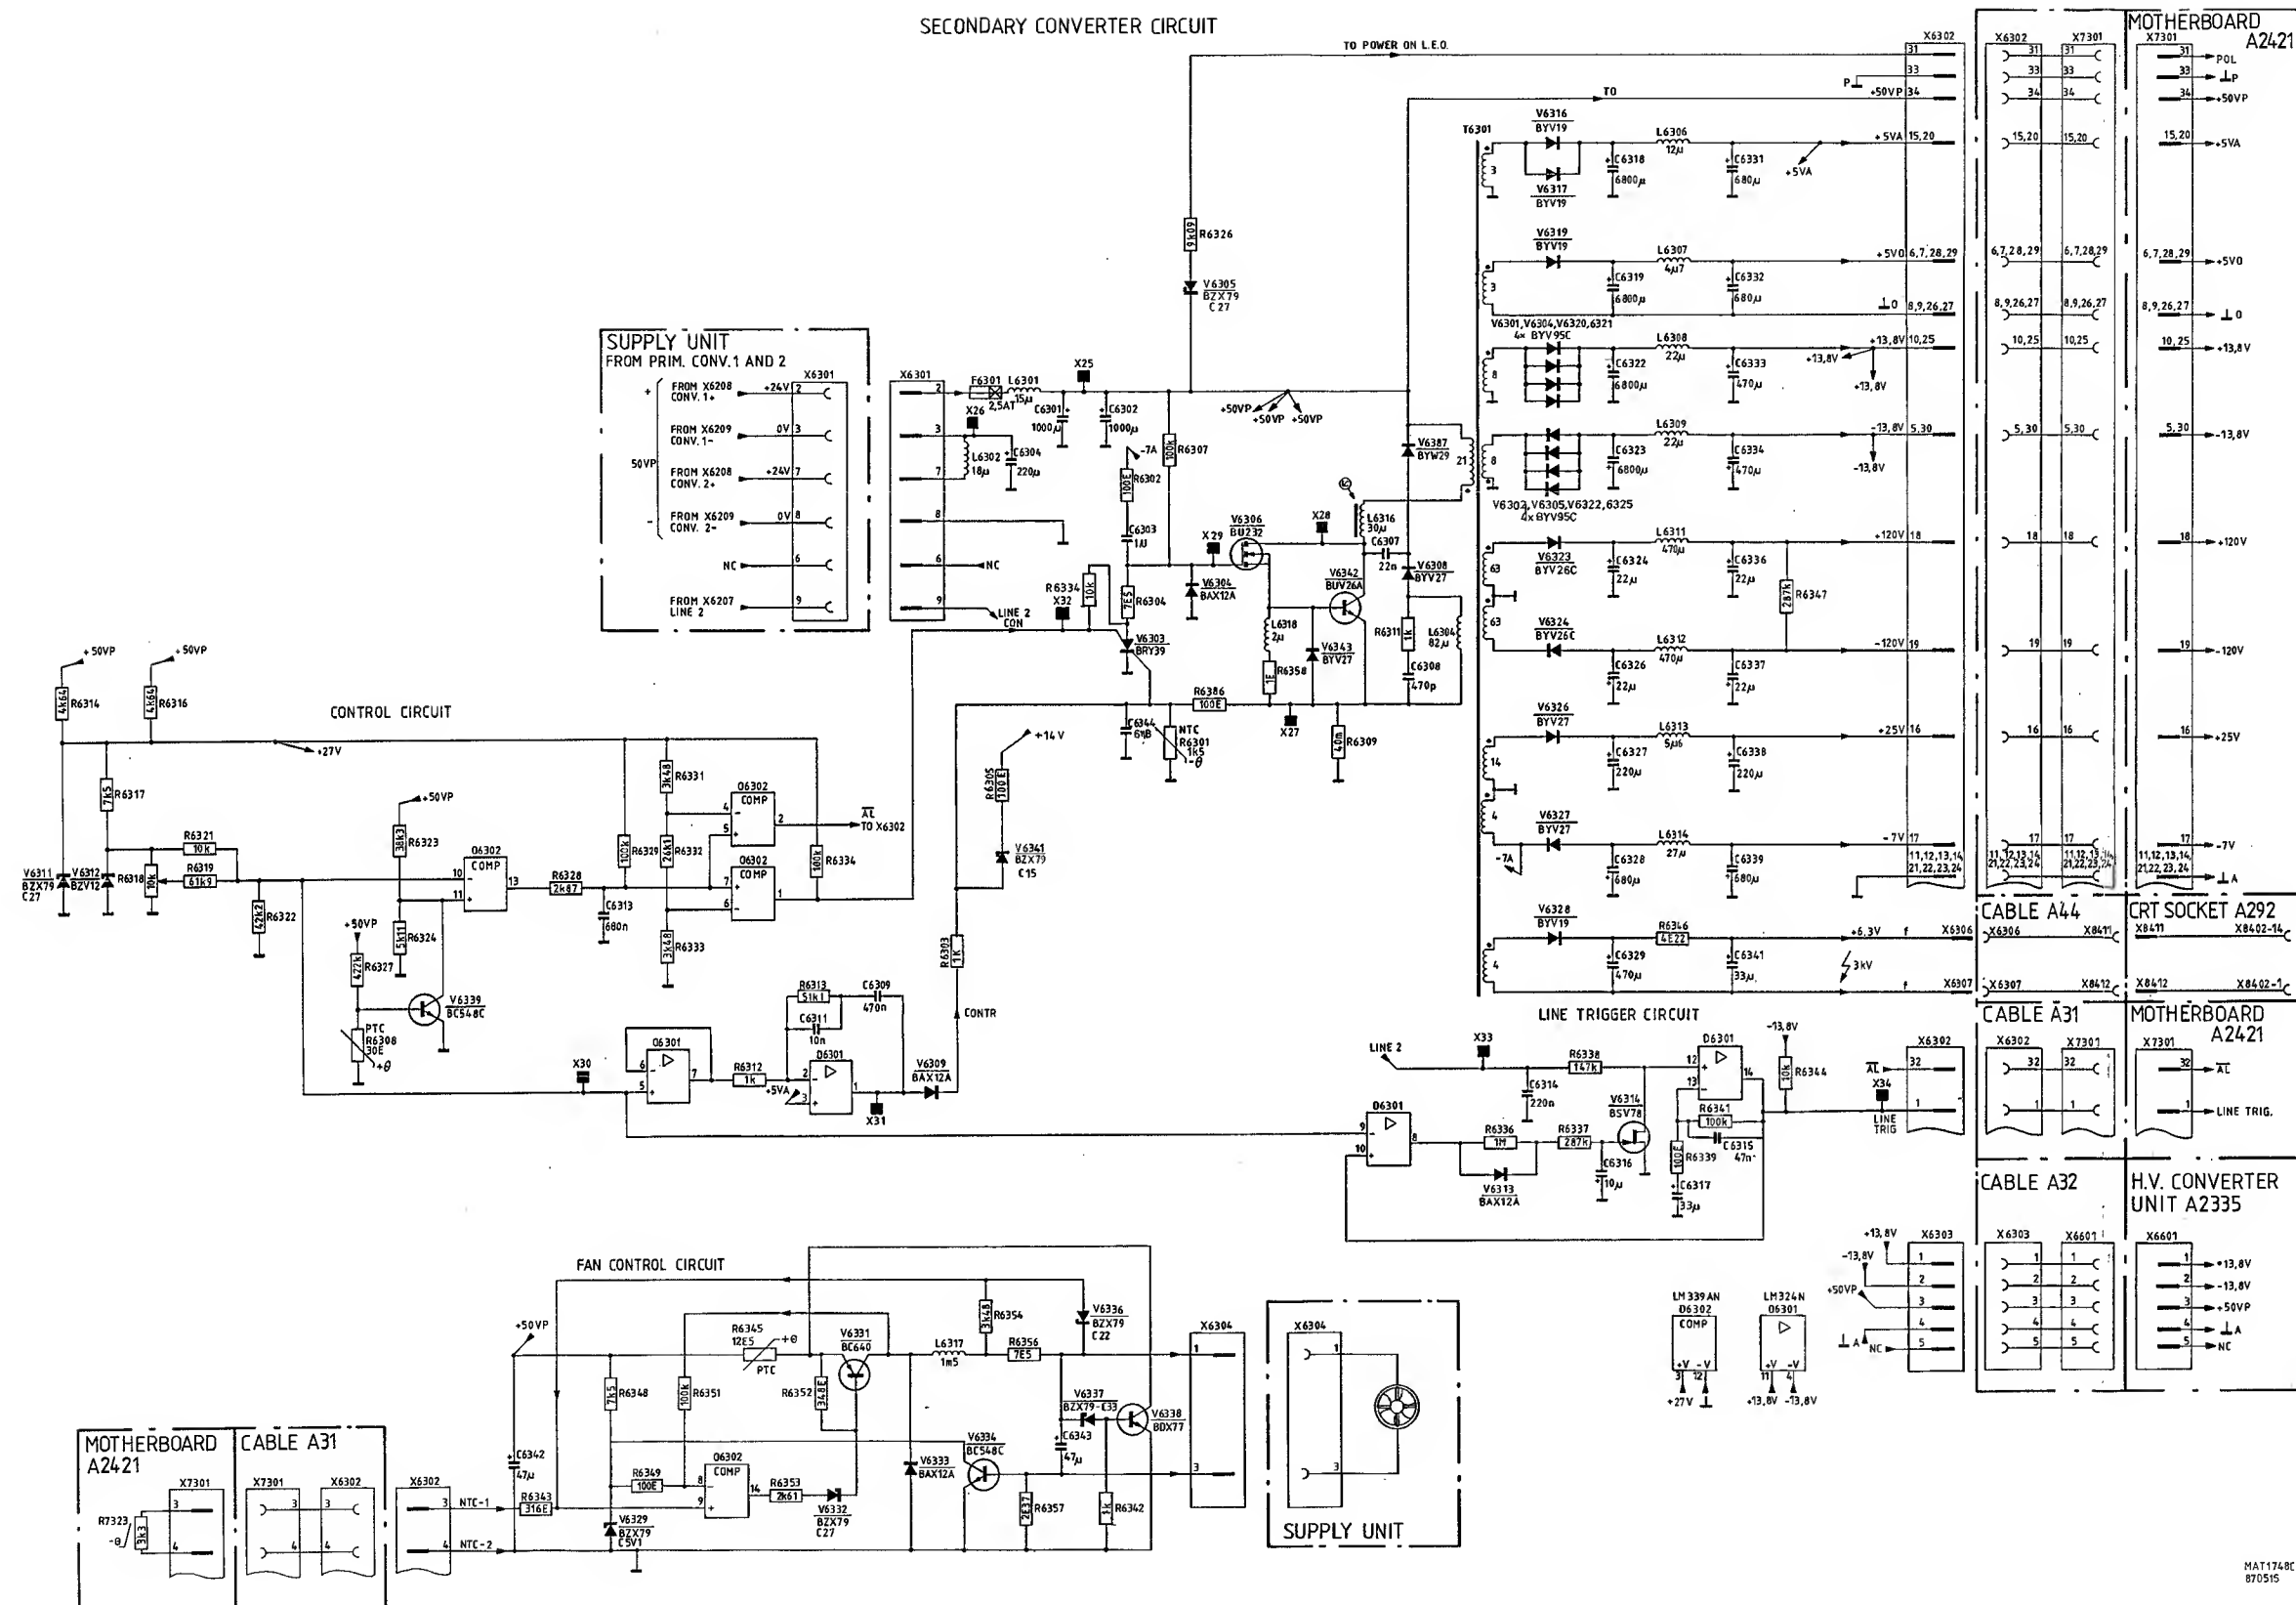

Fig.19.5. Secondary converter unit, circuit diagram.
19. CIRCUIT DESCRIPTION OF SECONDARY CONVERTER UNIT (See fig.19.5)